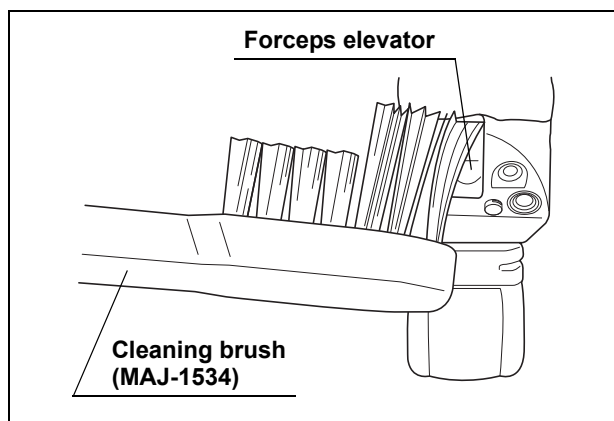

Figure 7.27
2. While holding the distal end, brush the groove of the interior of the forceps elevator with the cleaning brush (MAJ-1534) until all debris is removed (see Figure 7.27).